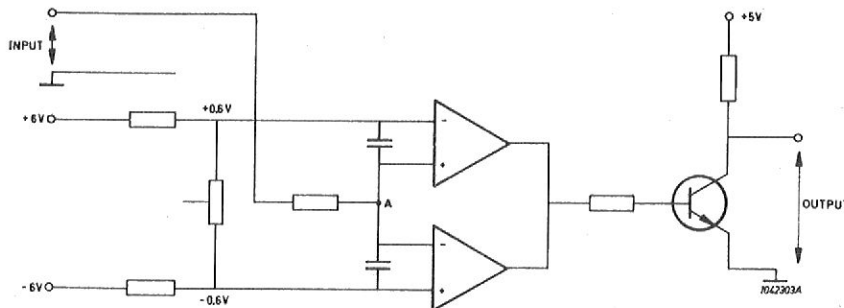

Fig. 5-6 Window Circuit
1.6 WINDOW CIRCUIT (Comparator) (figure 5-6)